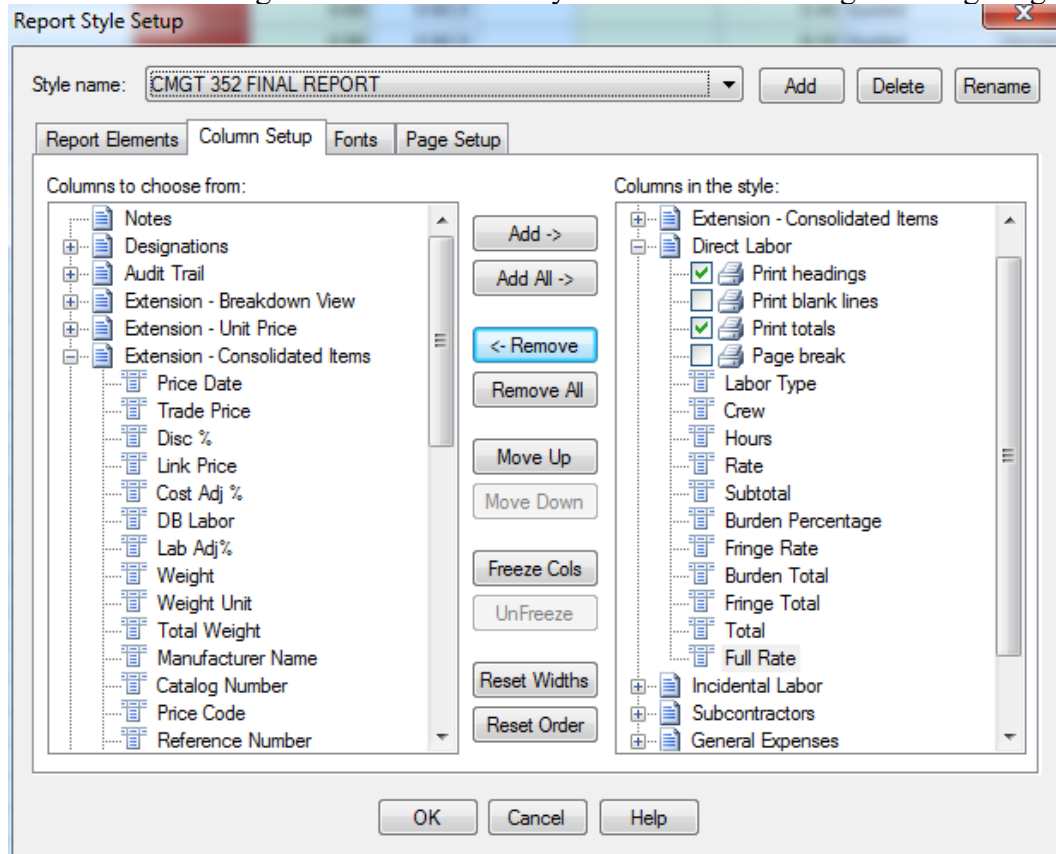
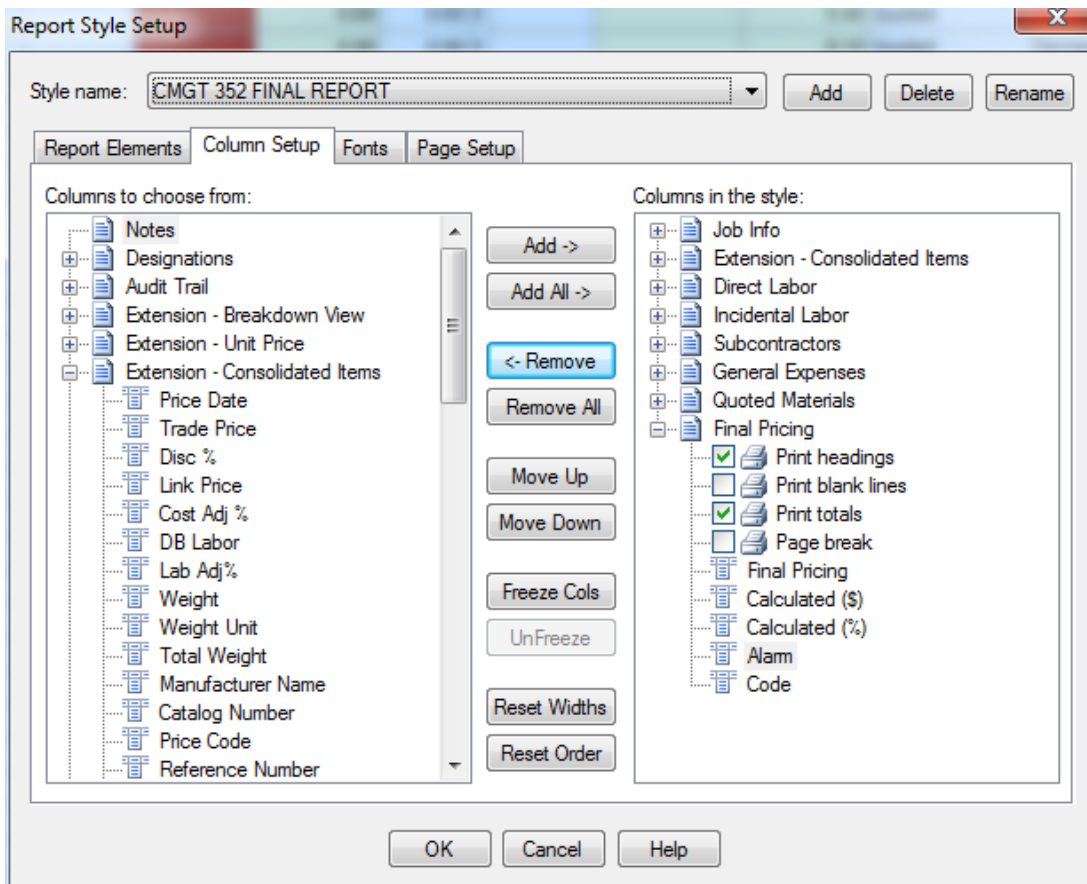

Fig. 8
Fig. 13
13. Continue editing the Columns in the style: list as shown in Fig. 8 through Fig 13.